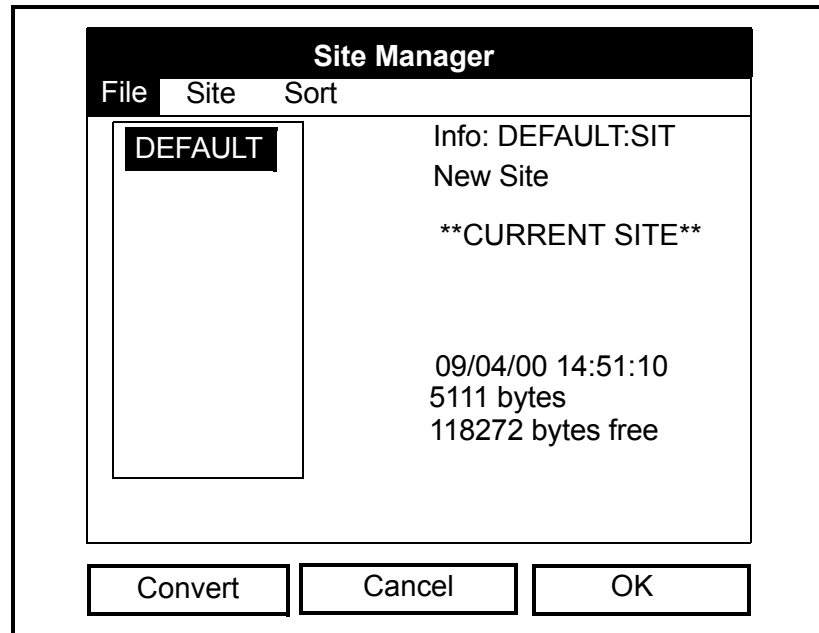

Figure 4-2: The Site Manager Window
2. With the *Site Menu* highlighted, scroll to the *Site Manager* option and press [ENTER]. A screen similar to Figure 4-2 below appears.
You must now decide if you want to use the site that was highlighted in the *Site Manager* window (see Figure 4-2 on page 4-2) as a template for the new site:
1. Highlight the desired site in the *Site Manager* window (see Figure 4-2 on page 4-2).
1. From the *Site Manager* (see Figure 4-2 on page 4-2), press [MENU] to open the *File* menu.
To update the meter with the most current information, open the *Site Manager* (see Figure 4-2 on page 4-2). Then, proceed as follows:
1. Highlight the existing site in the *Site Manager* (see Figure 4-2 on page 4-2), and press [MENU] to open the *File* menu.